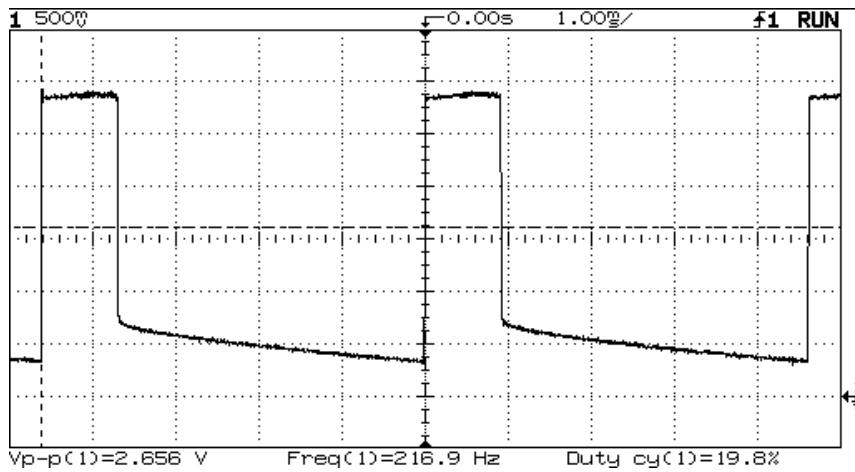

Fig. 4.5 3V\_P\_TX Pg. 1-4J TP101
3. **3V\_G\_TX** ( A 2.85V supply which feeds parts of the GSM TRX path). See figure 4.5.